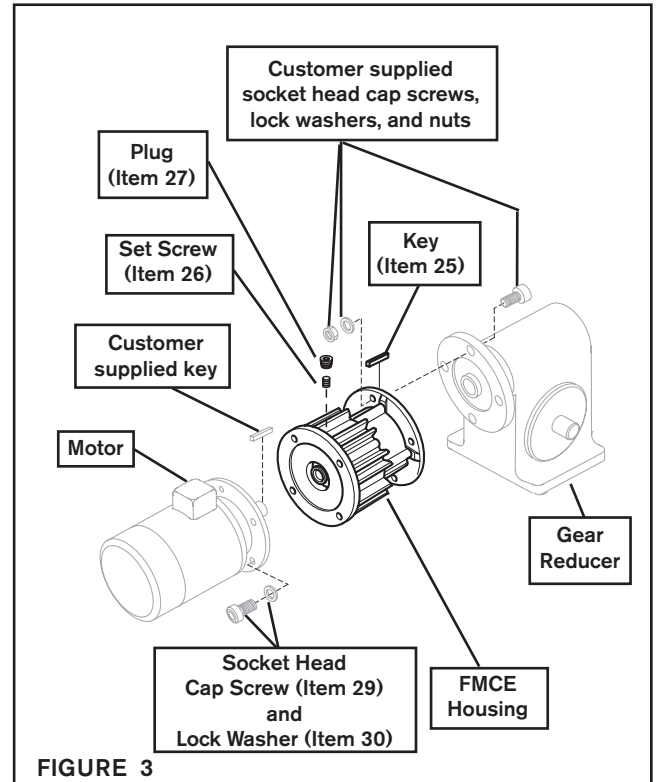

FIGURE 3
1. Insert the Key (Item 25) into the output shaft of the FMCE (See Figure 3).
2. Slide the FMCE output shaft into the gear reducer (See Figure 3).
3. Secure the FMCE to the gear reducer using customer supplied socket head cap screws, lock washers, and nuts (See Figure 3).
4. Insert the customer supplied key into the motor shaft keyway (See Figure 3).
5. Slide the motor into the FMCE and secure it to the FMCE using Nexen supplied Socket Head Cap Screws (Item 29) and Lock Washers (Item 30) (See Figure 3).
7. Align the Set Screw (Item 26) in the Drive Disc (Item 4) with the hole in the FMCE Housing (See Figure 3).
8. Tighten the Set Screw (Item 26); then, install the Plug (Item 27) (See Figure 3).